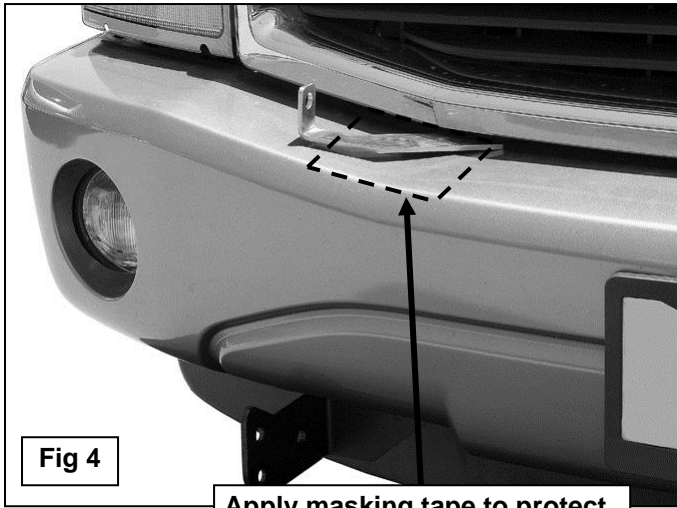

Fig 4
4. Before continuing, we highly recommend covering the top of the plastic bumper cover with removable tape, (masking tape for example), to protect the finish during Top Bracket installation, **(Figure 4)**.
5. Select the passenger side Top Bracket. Slide the Top Bracket through the gap between the bottom of the grille and the front bumper, **(Figure 4)**. Line up the mounting hole with the previously installed Top Support Bracket. Bolt the Top Bracket to the Support Bracket with (1) 10mm x 25mm Hex Bolt, (2) 10mm Flat Washers and (1) 10mm Nylon Lock Nut. Do not tighten hardware at this time. Repeat this Step to install the driver side Top Bracket.